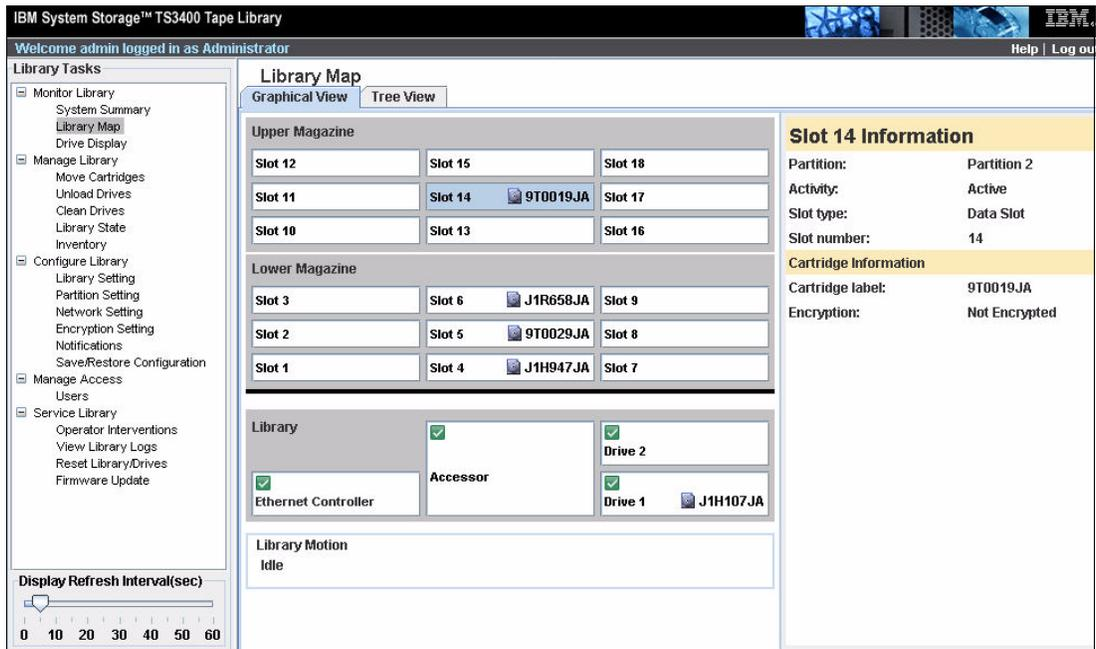

Figure 8-27 Library map graphical view TS3400
- To see if a data cartridge is encrypted, use the option **Library Map** from the Welcome page and click on the cartridge that is inserted in the partition that has encryption enabled. In our example, the cartridge in slot 14 is not encrypted. See Figure 8-27.